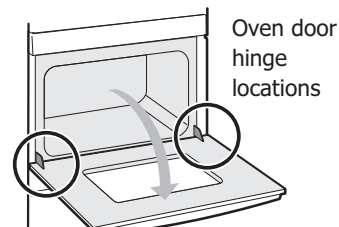

Figure 40: Door hinge location
1. Open oven door completely horizontal with floor (See Figure 40).
3. Fully open the oven door, horizontal with floor See Figure 40.